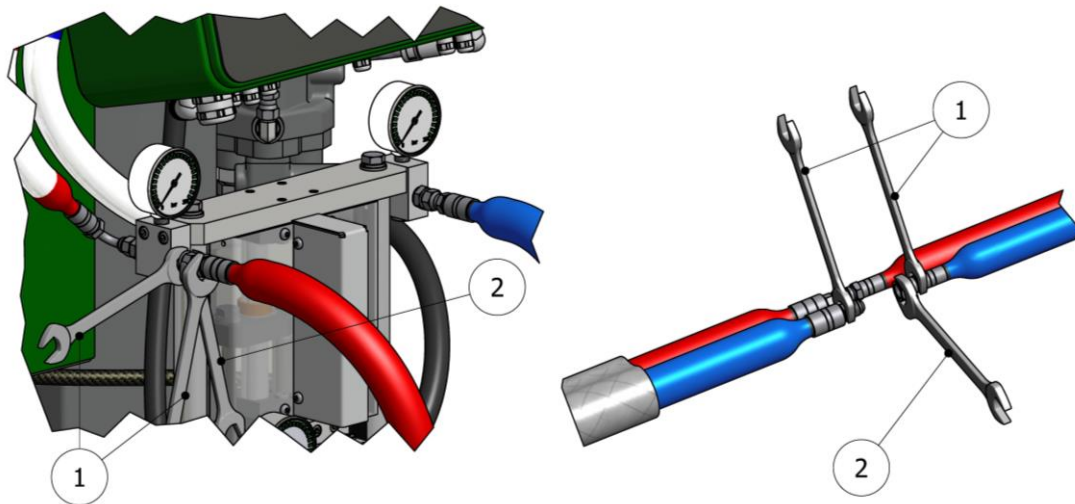

Figure 3. Hose coupling method
WARNING! To join hoses to each other, to the heaters, or to the gun, hold each hose end in place with a spanner (1), and with a third spanner tighten or loosen the coupling nut (2) as required (see Figure 3, pg.23). The tightening torque for these unions must be that indicated according to the procedure on page 20.